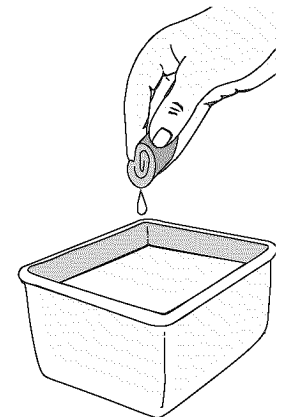

Fig. 29
3. Wash the filter in detergent and water (Fig. 29). Rinse the filter thoroughly. Squeeze out excess water. Allow it to dry completely.